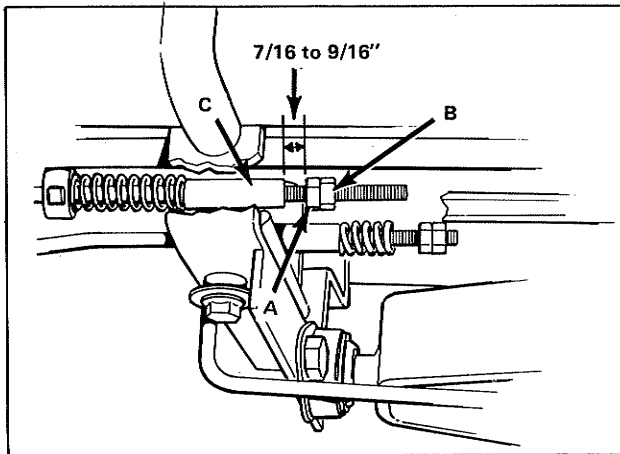

Figure 32. Clutch Rod Adjustment
3. Measure the gap between the adjusting nuts (items A and B, figure 32) and the rod guide (item C). The gap should be between 7/16 and 9/16 inch (11 to 14 mm) with the idler belt pressed firmly on the belt. If it is not, adjust as follows.